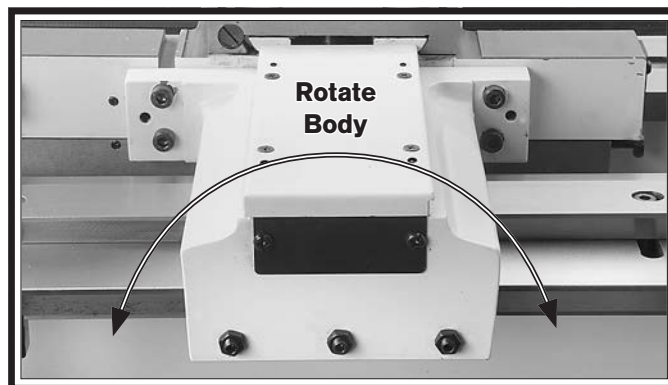

Figure 22. Attachment table tilt adjustment.
- 33.** Loosen the four cap screws that secure the attachment to the saddle, then rotate the attachment assembly left or right to correct the table tilt (see **Figure 22**).